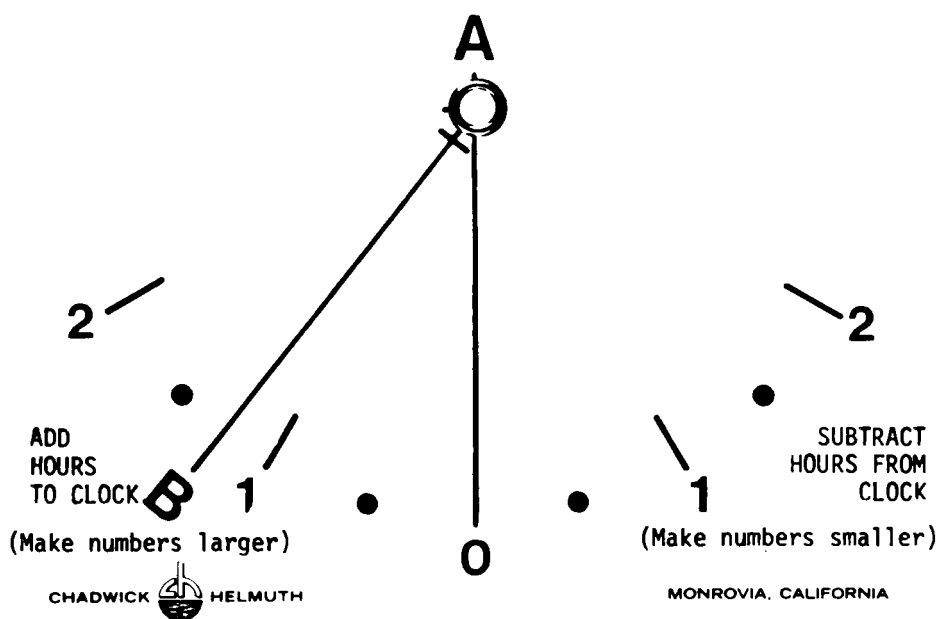

Figure 2-9. Balance Chart Angle Corrector
*c. Clock Corrector.* To use the Balance Chart Clock Angle Corrector, refer to the instructions contained on the envelope, figure 2-8, and the Balance Chart Clock Angle Corrector, figure 2-9. Detailed instructions are covered in the following balancing problem.